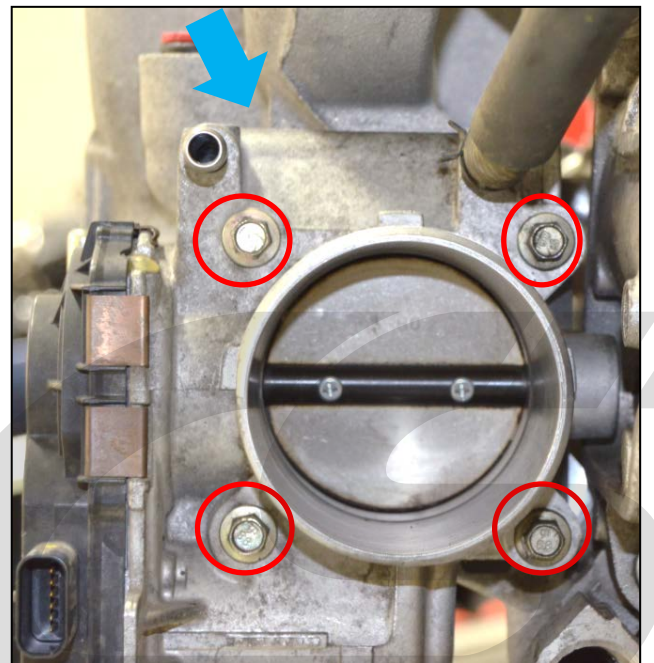

Figure 3b
- d) **Remove the throttle body** using an 8mm socket wrench and extension. The four bolts are shown with **red circles** in **Figure 3b**. Peel the gasket off the intake manifold for further inspection (be careful to not bend the gasket) Gasket tab shown with **blue arrow** in **Figure 3b**.